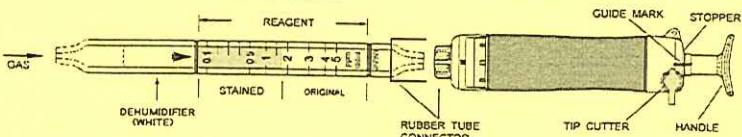

Fig.1
- ② Insert the detector tube into the aspirating pump securely as shown in Fig.1. (Arrow mark shall point to the pump.)
- ③ Align the guide marks on the shaft and stopper of the aspirating pump.
- ④ Pull the pump handle at a full stroke until it locks and wait for 1 minute or until the completion of sampling is confirmed with the flow indicator of the pump. (See descriptions about the flow indicator in the instruction manual of the pump.)
- ⑤ On completion of sampling, read the scale at the maximum point of the stained layer.
- ⑥ When the concentration is below the scale range, 2 or 5 pump strokes can be used to determine the lower concentrations. Then multiply the reading value by 1/2 or 1/5 respectively.